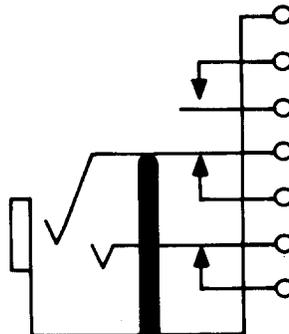

Fig. 23—573A or C Jack
**2.23 573A and C:** These single-mounted jacks (Fig. 23) are heavily insulated and have bifurcated "break" contacts and solderless wrap terminals. These jacks are arranged to be used with the 150, 184, 202, 213, 262, 310, 320, 331, and 338 type plugs. These jacks are intended to be mounted with the springs in a vertical plane. These jack are used with the DDD-Type Toll Offices.